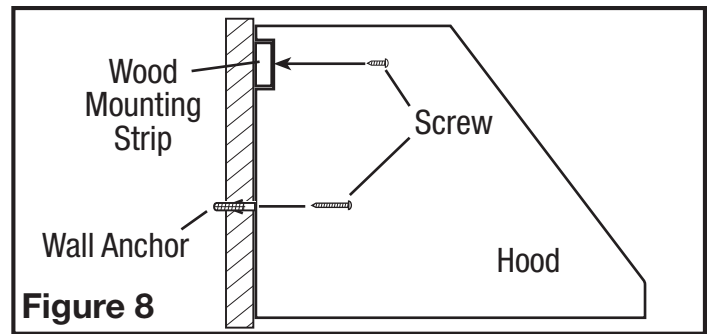

Figure 8
3. Rest the cavity in the back side of the hood on the wood strip and secure hood to wood strip with the included 3/4" screws through the holes in the back of the hood that line up with the wood strip (use 6 screws for 30" and 36" widths and 8 screws for larger widths) Secure the bottom of the hood by installing the screws provided into the wall anchors (Figure 8).